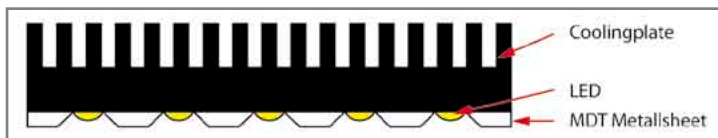

Figure 3: Section LED with covering louver
- Solutions using many low brightness surface LEDs with covering louver (Figure 3):